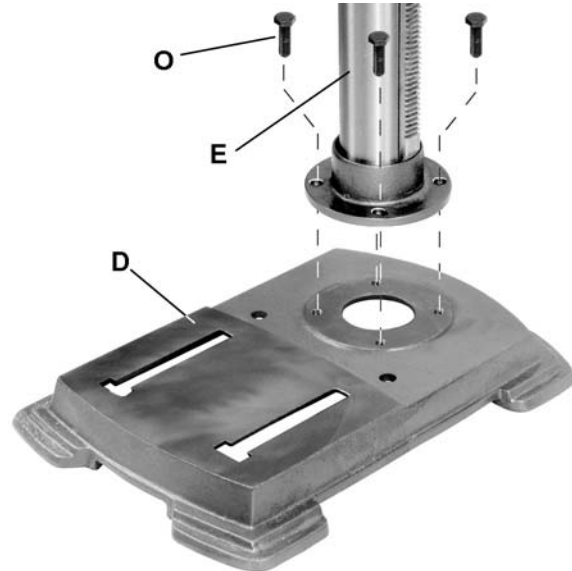

Figure 1
Referring to Figure 1:
2. Rotate head assembly until sides of the *belt cover* (E) are parallel with the sides of the *base* (D, Fig. 1).